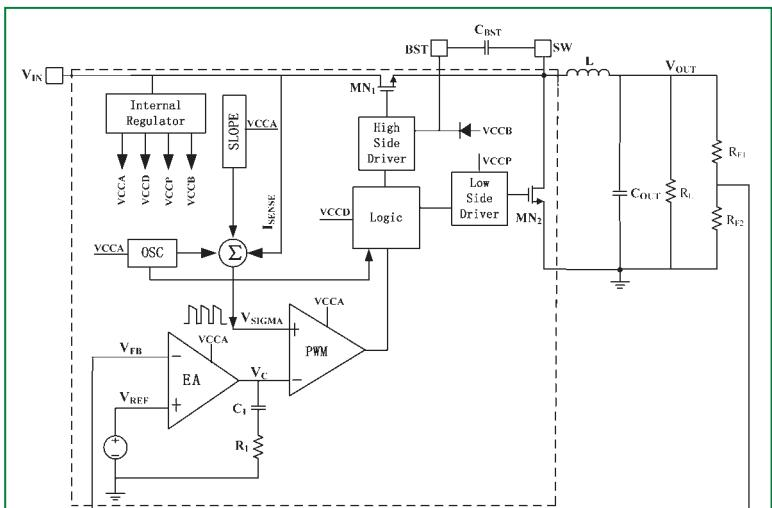

Figure 1: High-voltage buck DC-DC system frame
The block diagram of a pulse width modulation (PWM) peak-current mode high-voltage buck DC-DC is shown in Figure 1. The circuit part enclosed with the dashed line is the chip's internal circuit, while the rest is the peripheral circuit. Analog circuits such as the error amplifier (EA) and PWM comparator need constant supply voltage under normal working conditions. Power modules like the low-side driver require relatively large transient currents, while the logic and other digital modules will make the supply voltage of hundreds of millivolts dithering. Therefore, several different internal power supplies are needed to power the different modules, and with good isolation too, to reduce mutual interference.
The internal regulator in Figure 1 is the power supply module of interest in this article, which produces four internal power supply lines V_{CCA} , V_{CCD} , V_{CCP} and V_{CCB} , to provide voltage to the analog, digital and power parts and bootstrap capacitor respectively. Since the capacitance is usually in the nF ballpark, the charging current will be relatively large. Therefore, another internal power supply is required.